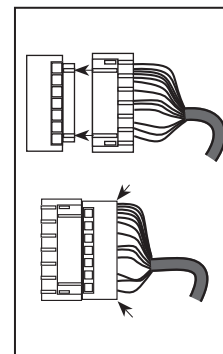

Figure 6B
6. Attach cable assembly connector to the inside escutcheon PC board by lining up notches on top of cable connector to slots on PCB connector (Fig. 6B).